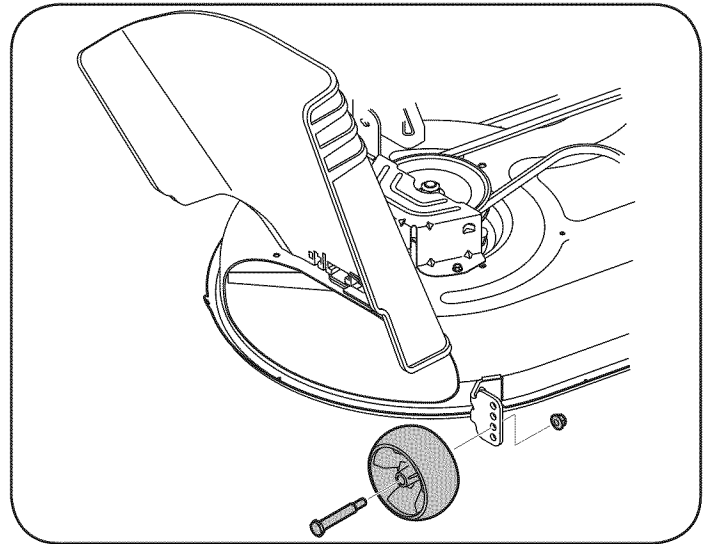

Figure 9
2. Position the wheel to the desired height as listed above. See Figure 9.